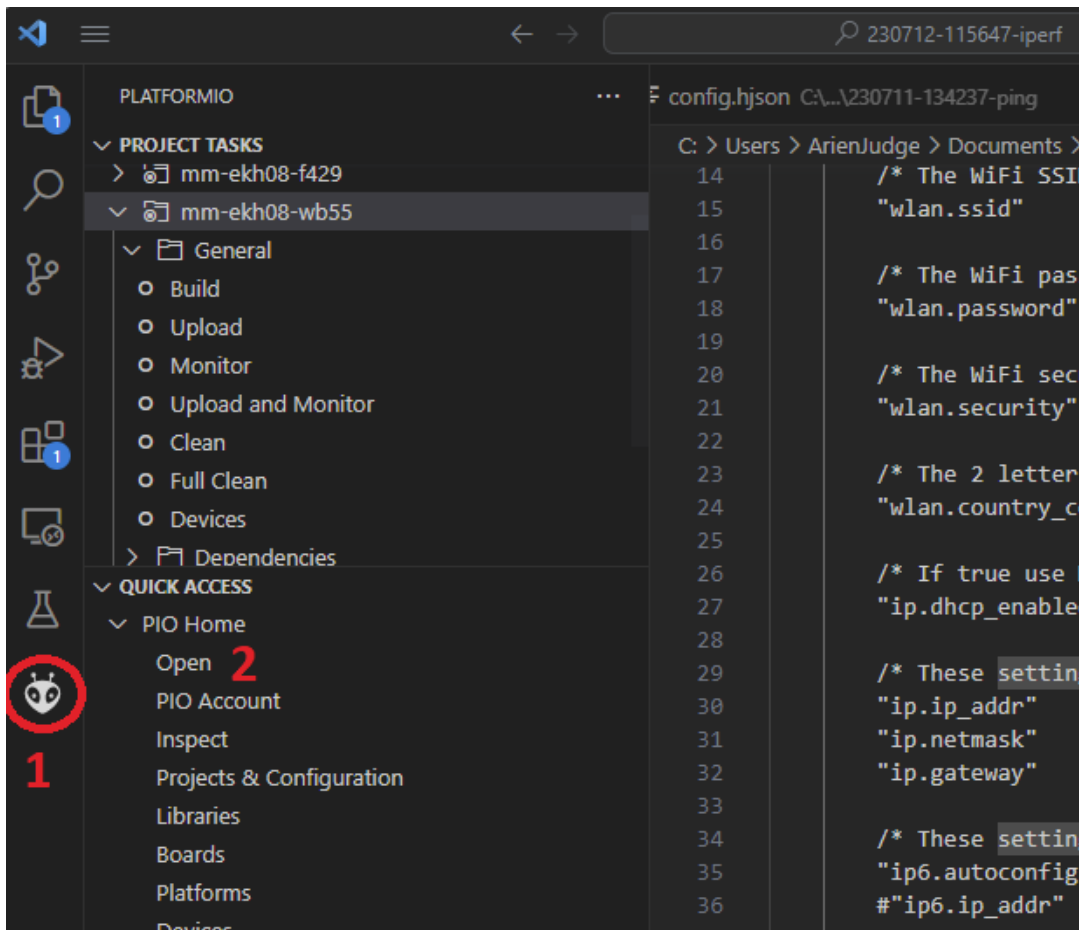

Figure 23. PlatformIO quick access
1. Click on the PlatformIO icon in the activity bar (Figure 23)